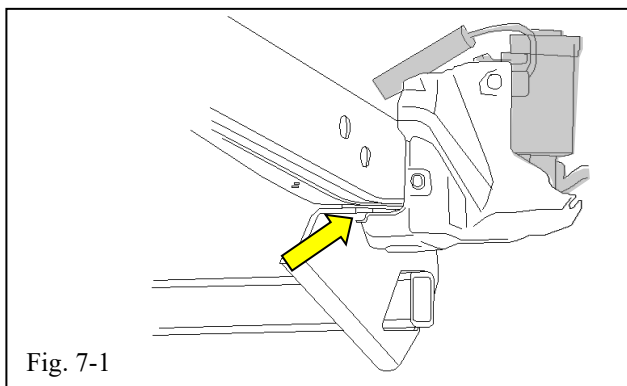

Fig. 7-1
- (b) If previously removed, reinstall the air suspension compressor cover using the (2) plastic push-pins removed in Step 1(d) (Fig. 7-1).